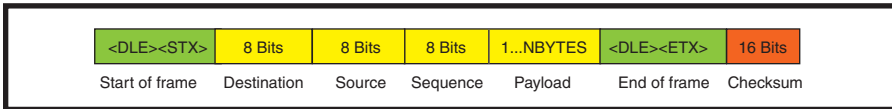

Figure 4—A general frame format details what is issued in a network protocol with a node-addressing mechanism.
Obviously, byte-stuffing has to be used only on the variable portion of the frame. As you can see in Figure 4, it is not mandatory to byte-stuff destination, source, sequence, and checksum fields if the frame's format is always the same, but it has to be used for the payload (the only field containing useful data).
A good candidate would be the sequence character in Figure 4. The four lower-order bits may be the sequence number, and one of the other free bits may indicate if the frame is expressed in little Endian (0) or big Endian (1) notation. A more difficult decision would involve designing or using a simple high-level API to send and receive data. This would execute a remote function and signal and receive notification events with a simple syntax.
Figure 4 is a detailed frame format. The E flag indicates big Endian (1) or little Endian (0). The three free flags can be used for other protocol-specific needs.